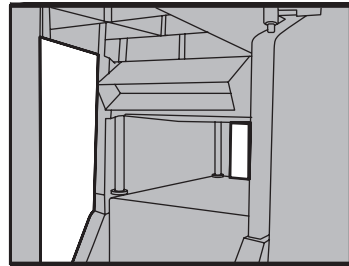

Fig 16
10) Turn the height adjusting handle (11) clockwise to raise the thicknesser bed. This will secure the extraction port in place as well as engaging the safety interlock switch.
11) Once fitted correctly, the extraction port should look as in Fig 16.